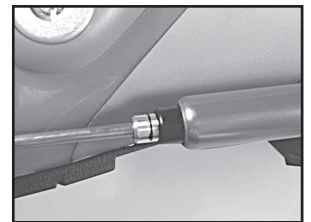

FIGURE 3
Now engage the heel lever and check the distance from the mark to the back collar. the distance should be at least 1/8" or mm and no more than 1/4" or 6mm to ensure optimal flex and heel retention. (SEE FIGURE 3)
2.) Before skiing, **check the forward pressure** to confirm you have an adequate load on the spring cartridges for maximum performance. (REFER AGAIN TO FIGURE 3)